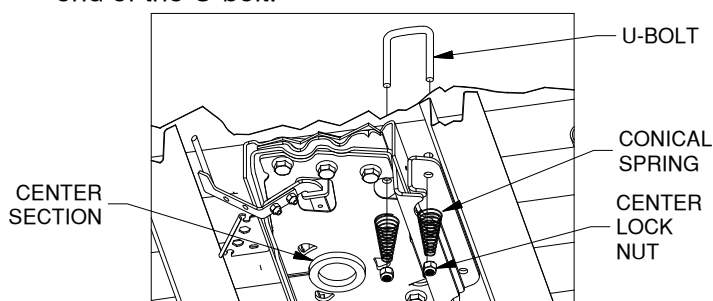

Figure E1: Cutaway, looking up at driver side of center section.
3. **Add springs.** Place a conical spring over each leg of the U-bolts and secure with a 1/2" lock nut, see figure E1. Tighten the lock nut until the nut is flush with the end of the U-bolt.